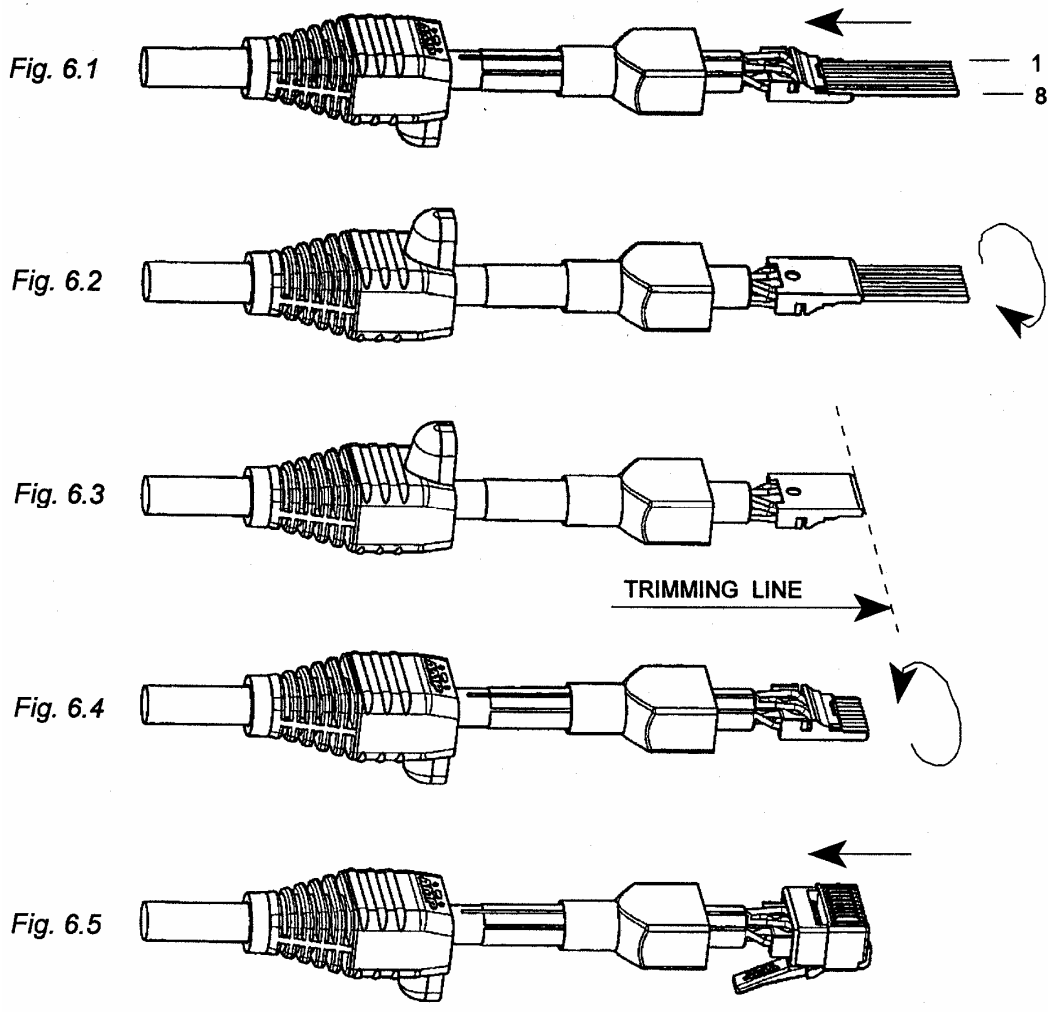

Figure 6a: Insertions and Crimping
**3.2.3. Insertions and Crimping** (Figures 6a, 6b)